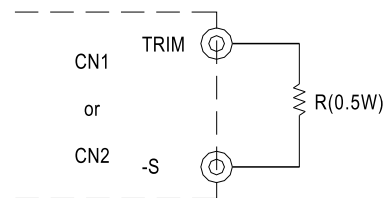

Fig. 3.2 Output voltage trimming
- Connecting a resistor externally between TRIM and-S on CN1 or CN2 that is shown in Fig. 3.2.